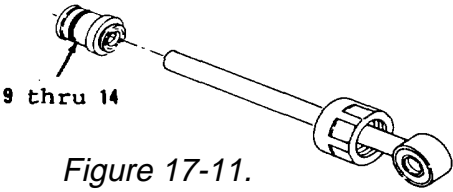

Figure 17-11.
7. Remove items 9 thru 14 as an assembly (Figure 17-11).
9. Install items 14 thru 9 as an assembly on items 18 thru 15 as an assembly (Figure 17-11).